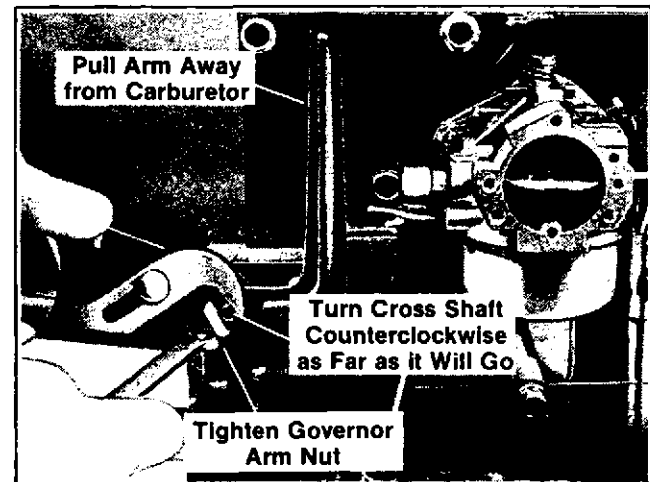

Figure 8-24. Adjusting Governor Arm
4. Grasp end of governor cross shaft with pliers and turn (counterclockwise) as far as possible (tab on cross shaft will stop against rod on governor gear assembly). Now, while holding the cross shaft in the position just mentioned, pull the governor arm away from the carburetor (as far as possible), then tighten the governor arm nut (see Figure 8-24).